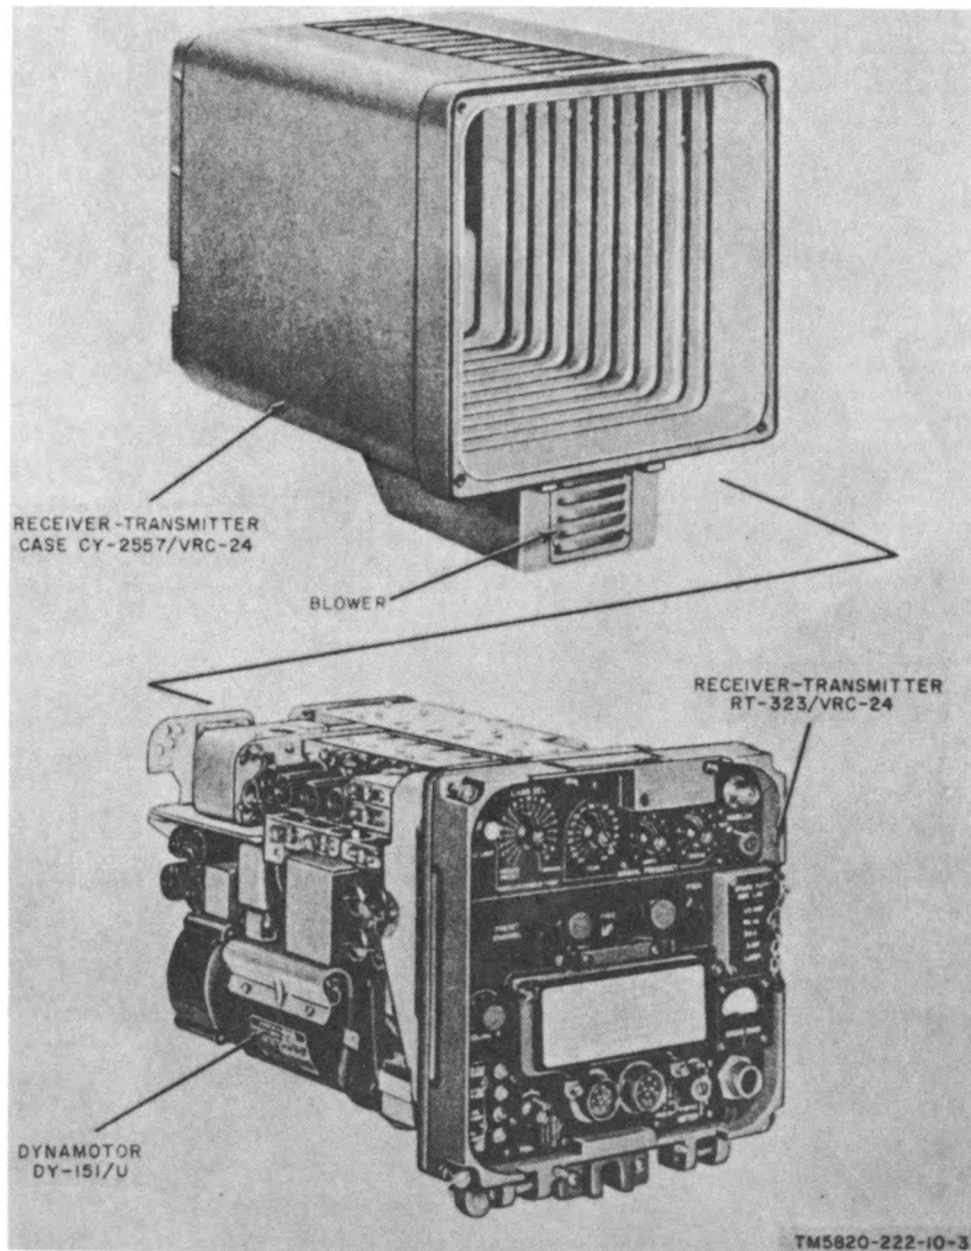

Figure 5. Receiver-Transmitter Group OA-2648/VRC-24.
9. Description of Receiver-Transmitter Group OA-2648/VRC-24 (fig. 5)